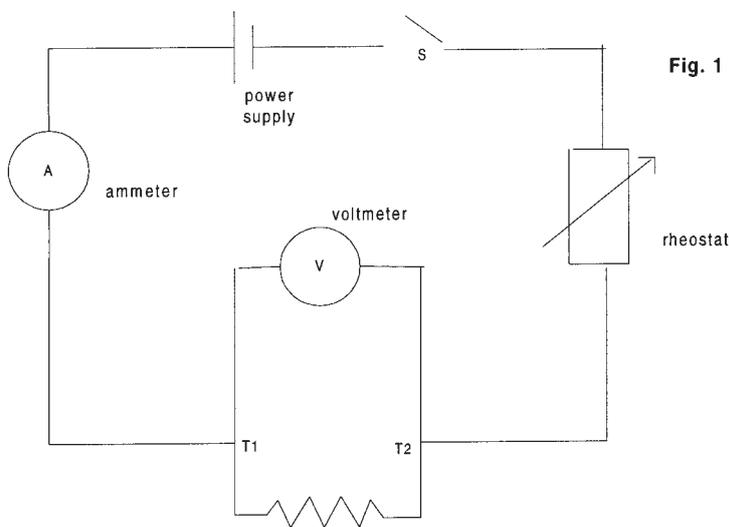

Fig. 1
- 3.2 You are provided with electrical wire connections, an ammeter, a voltmeter, a power pack and a rheostat. Connect these to the electrical heater device as shown in Fig. 1.